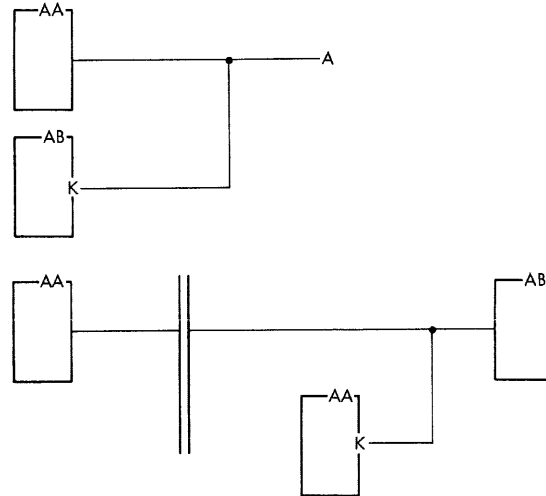

Figure 5-10. Nonlogic Outputs Tied, Example
2. All the outputs tied together are not on the same page. In this case, the outputs tied together on this page show an output to the right side of the page. The outputs in the same net on other pages return to the left of their respective pages and are referenced to the first page in the normal manner. The net number includes the line origin of one of the commoned outputs on the first page. In the edge of all other blocks having outputs in the same net, a K appears in line with each commoned output (Figure 5-10).